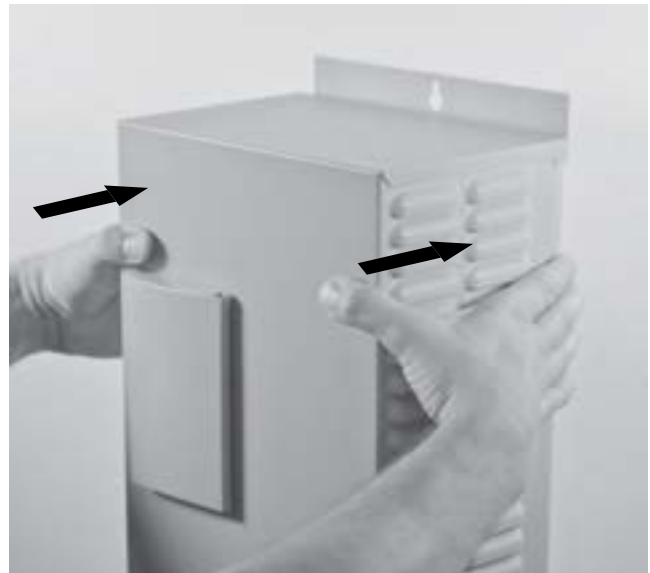

Figure 7 - Reattaching Drive cover
6. To reattach the Drive cover, hook the top of it on backplate (be sure to leave a gap). Lower bottom of cover into place. Push cover evenly against backplate, eliminating the gap. See Figure 7.